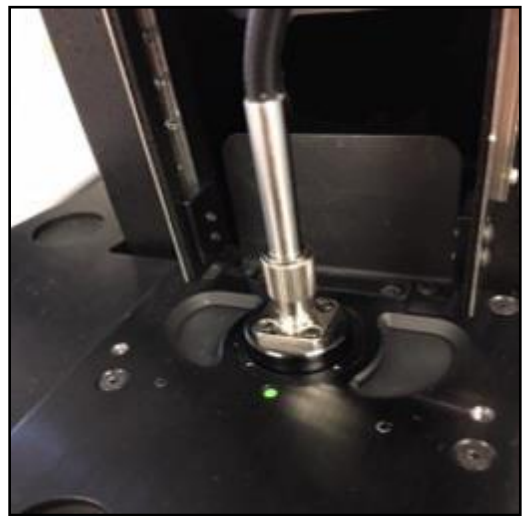

Figure 18. Connect Transmission Tool to Translation Stage.
3. Place the Transmission tool on top of the SoloVPE PLUS Detector Window (Figure 18).